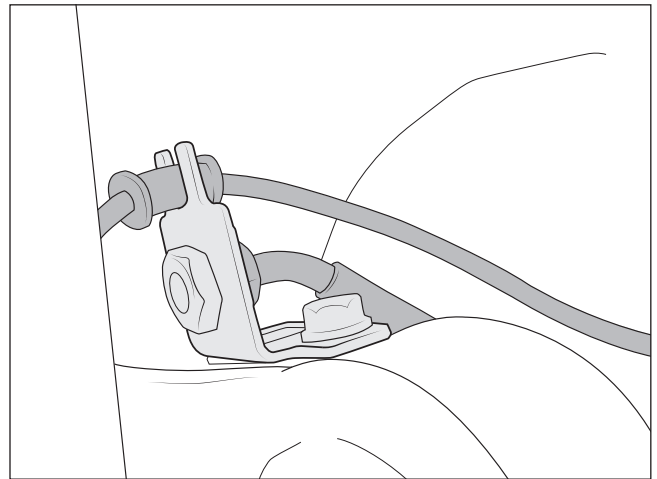

Figure 4
- C. Remove the flexible line brackets at the top of the radius arms and let hang (fig. 4).